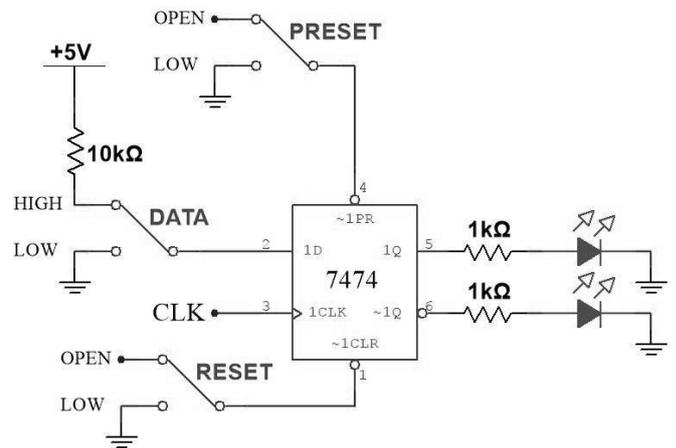

Figure 3.15. Experimental Edge-triggered D Flip-flop
- Connect the circuit of figure 3.15!